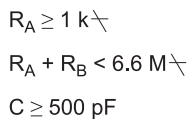

Figure 6: 555 astable multivibrator.
555 timer is made up of two voltage comparators and an S-R latch as shown in Figure 6. The voltage comparators are devices that produce a HIGH out whenever the voltage on the + input is greater than the voltage on the - input. The external capacitor (C) charges up until its voltage exceeds $2/3 \times V_{CC}$ as determined by the upper voltage comparator monitoring V_{T+} . When this comparator output goes HIGH, it resets the SR latch, causing the output pin (3) to go LOW. At the same time, \bar{Q} goes HIGH, closing the discharge switch and causing the capacitor to begin to